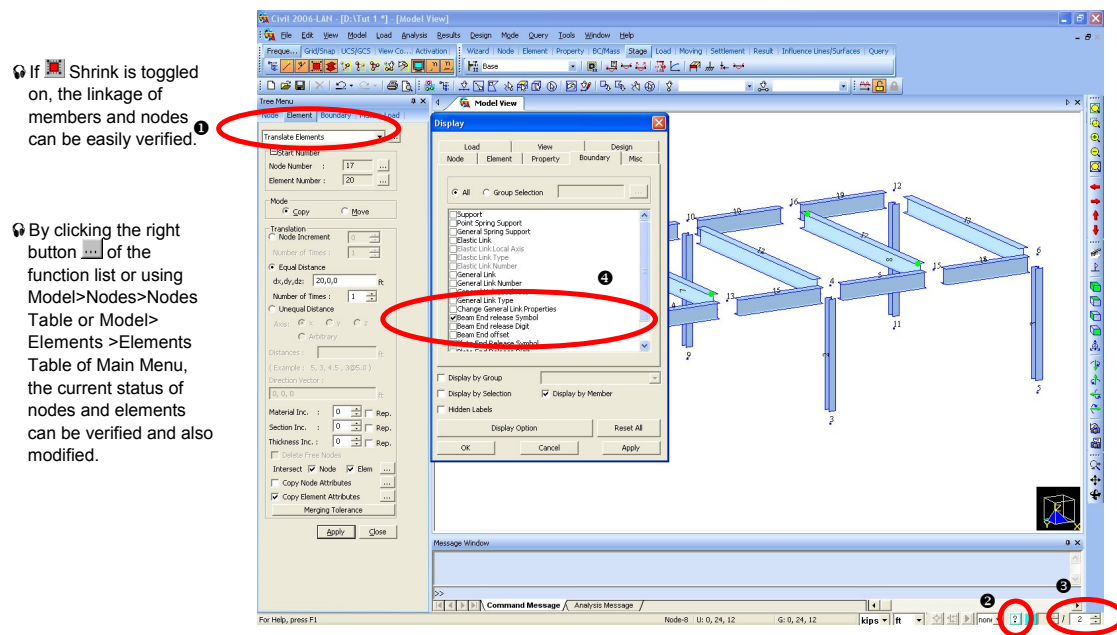

Figure 1.11 Generation of Girders and Beams
Even if  Node Number is not toggled on, the attributes of snapped nodes can be easily verified using Fast Query (Fig.1.11-②).
2. Select **Create Elements** from the functions selection field (Fig.1.11-①).
Civil allows mouse snap at the centers of the elements as well as any particular point in the elements by using Snap located at the bottom of the screen (Fig.1.11-③).
3. Select **Boundary** from the **Model Entity** tab (Fig.1.11-④).
6. Select **Element** from the **Model Entity** tab (Fig.1.11-⑤).
19. Select **Boundary** tab (Fig.1.11–④).